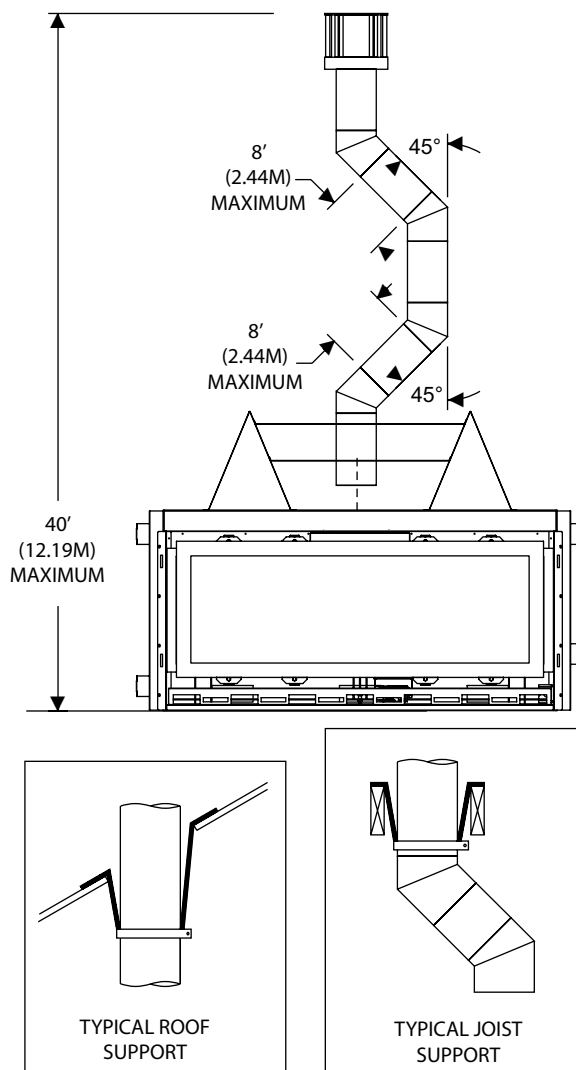

Figure 43
- Two sets of 45 degree elbow offsets within these vertical installations. From 0 to a maximum of 8 ft. a vent pipe can be used between elbows. **See Figure 43.**